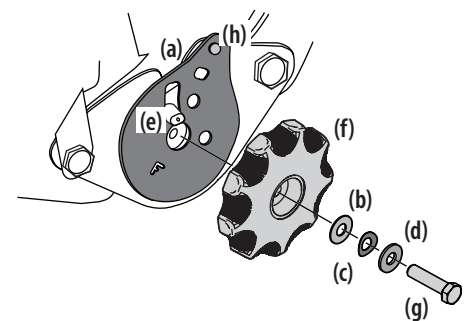

Figure 12
7. Remove the seat tilt knob assembly from the bag and install as shown in Figure 12.
NOTE: Be sure to orient the recliner plate (a) and install the plastic washer (b), spring washer (c) and metal washer (d) as shown in Figure 12. The plastic washer is on the inside.
8. Slide the recliner bearing plate (a) onto the recliner pin (e). Refer to Figure 12.
10. Use a wrench to hand tighten the hex screw (g) until the recliner knob (f) is difficult to turn. Refer to Figure 12 on page 9.
11. Gradually loosen the hex screw (g) until the recliner knob moves freely. Do not loosen the hex screw (g) more than one full turn. Refer to Figure 12 on page 9.
12. Securely install the 1/4" nut onto the clinch-stud (h) and rotate the recliner knob to check the operation of the seat. Refer to Figure 12 on page 9.